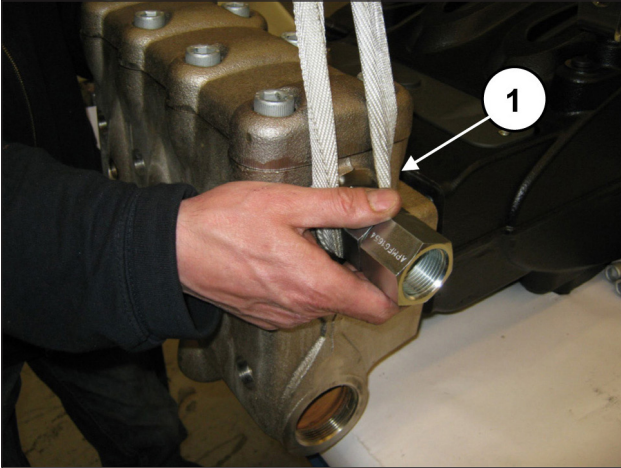
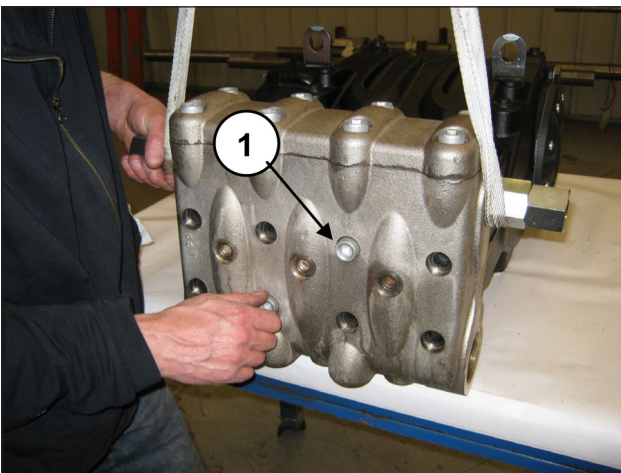

Fig. 129
Fig. 130
Assemble the pump casing head (pos. ①, Fig. 129) taking care not to hit the pistons and screw in the 8 M16x180 screws (pos. ①, Fig. 130).